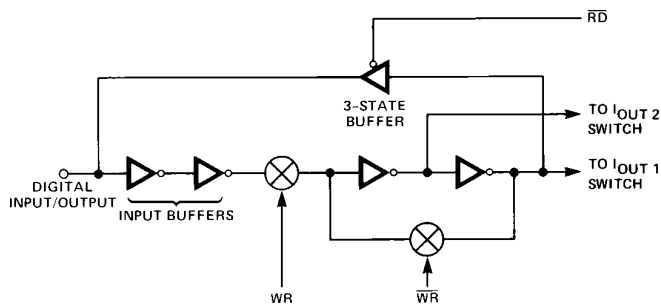

Figure 5. Digital Input/Output Structure
Figure 5 shows the digital input/output structure for one bit. The digital WR,  $\overline{WR}$ , and  $\overline{RD}$  controls shown in the figure are internally generated from the external  $\overline{A/B}$ ,  $\overline{R/\overline{W}}$ ,  $\overline{DS1}$ , and  $\overline{DS2}$  signals. The combination of these signals decide which DAC is selected. The digital inputs are CMOS inverters, designed such that TTL input levels (2.4 V and 0.8 V) are converted into CMOS logic levels. When the digital input is in the region of 1.2 V to 1.8 V, the input stages operate in their linear region and draw current from the +5 V supply (see Typical Supply Current vs. Logic Level curve on page 6). It is recommended that the digital input voltages be as close to  $V_{DD}$  and DGND as is practical in order to minimize supply currents. This allows maximum savings in power dissipation inherent with CMOS devices. The three-state readback digital output drivers (in the active mode) provide TTL-compatible digital outputs with a fan-out of one TTL load. The three state digital readback leakage-current is typically 5 nA.
**General Ground Management:** AC or transient voltages between AGND and DGND can appear as noise at the DAC8408's analog output. Note that in Figures 5 and 6,  $I_{OUT2A}/I_{OUT2B}$  and  $I_{OUT2C}/I_{OUT2D}$  are connected to AGND. Therefore, it is recommended that AGND and DGND be tied together at the DAC8408 socket. In systems where AGND and DGND are tied together on the backplane, two diodes (1N914 or equivalent) should be connected in inverse parallel between AGND and DGND.